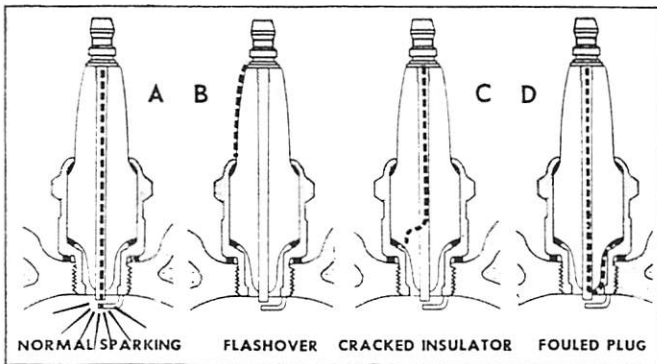

Figure 12. Fire and Misfire
To "fire the charge", a combustible mixture first must be present in the cylinder. Secondly, a spark of sufficient intensity must be supplied to ignite the fuel or, literally, get the fire started. The spark plug's main job, therefore, is to transfer the ignition system's energy into the cylinder in the form of an adequate spark. If a normal fuel charge fails to ignite, the spark plug itself then can be considered misfiring. What are the possible causes of misfiring? (Figure 12)
4. The high voltage can short over the top of the plug, termed "flash-over". ("B" in Figure 12)
5. The high voltage can leak to ground through a direct mechanical break in the insulator. ("C" in Figure 12)
6. The high voltage can lead to ground through conducting deposits on the firing surface of the insulator. In this case, energy is drained away and the ignition system cannot build up sufficient voltage to jump the gap. ("D" in Figure 12)